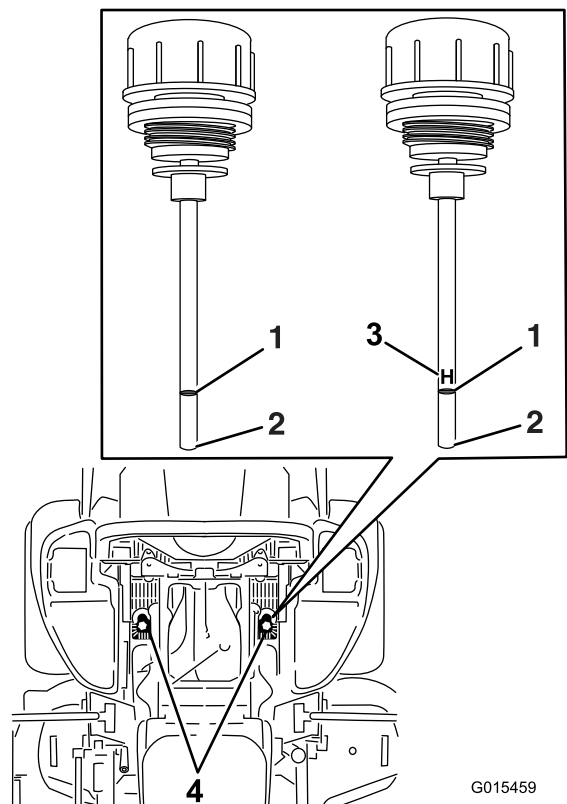

Figure 83
5. Clean the area around the dipsticks of hydraulic-system reservoirs (Figure 83).
6. Remove 1 dipstick from the hydraulic reservoir (Figure 83).
8. Remove the dipstick and look at the end (Figure 83).